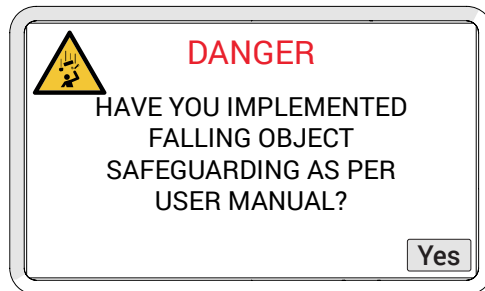

Fig. 219 - Falling object warning
6. A second warning message (Fig. 219) will display requesting assurance that a No Entry Fall Zone has been established (see “Preparation for Safe Use” on page 33) and tether requirements are met (see “Tether Requirements and Attachment” on page 34). Acknowledge this warning by touching **Yes**.